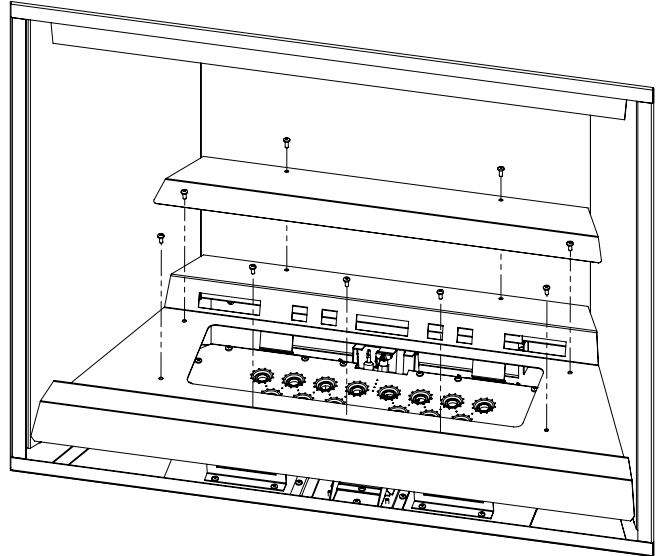

Figure 10. Media Tray Removal
5. Remove the upper tray hat by removing the two (2) upper T-20 screws.
6. Remove the seven (7) remaining T-20 screws securing the glass media tray (see Figure 10). Lift up and out.